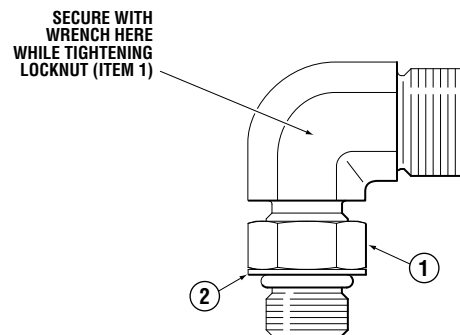

Figure 20.
1. Back off lock nut (item 1, Figure 20), counter-clockwise, until it stops.
2. Thread fitting into cylinder body until fitting washer (item 2, Figure 20) contacts the face of the cylinder port. Tighten hand tight, **DO NOT TORQUE FITTING INTO GLAND.**
4. While holding fitting with a wrench, tighten the locknut (item 1, Figure 20) and torque to 40–43ft-lb.
Failure to properly tighten the locknut (item 1, Figure 20) may lead to loss of steering control. Loss of steering control may result in unpredictable boat behavior, collision with an obstacle and/or ejection from vessel, leading to property damage, personal injury and/or death.